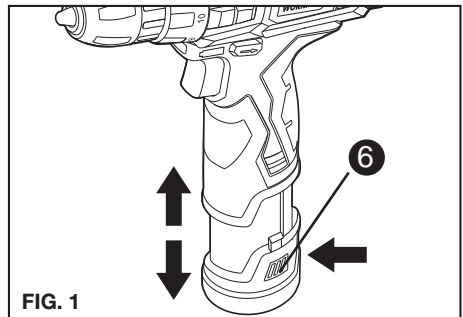

FIG. 1
Hold the handle tightly and push the battery latch (6) to remove the battery (see Fig.1)